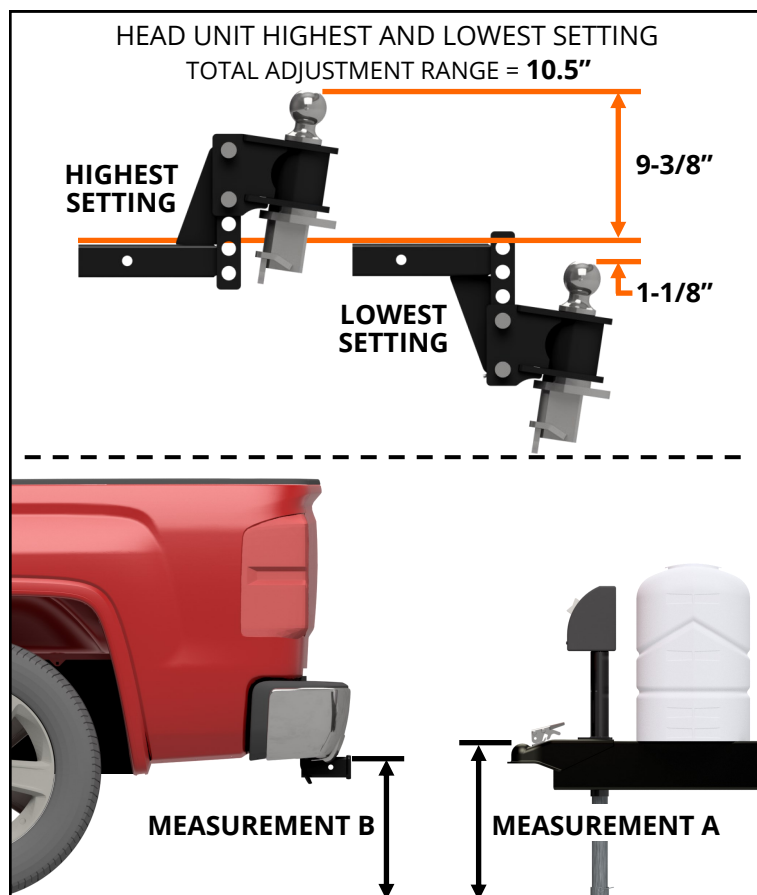

FIGURE A4: View of trailer and tow vehicle.
- The height of the trailer coupler and the tow vehicle receiver must be within the adjustment range of the hitch. Use **Figure A4 and the formula below** to determine if the height of the trailer and tow vehicle will allow the hitch to couple. The top of **Figure A4** shows the adjustment range of the hitch.